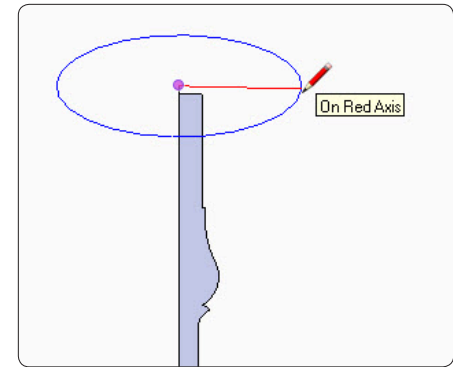
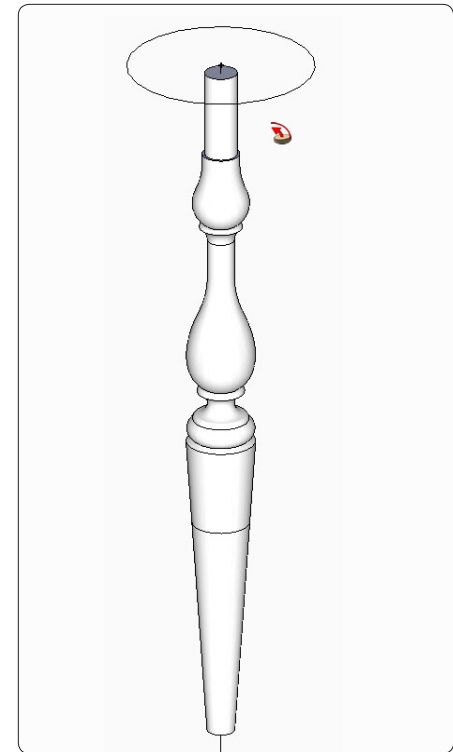

Figure 28. Draw a circle to make a path for the Follow Me Tool. Be sure the circle’s radius is on the red axis, so it lines up with the leg shape.
Figure 29. The completed leg.
Step 5 Create the path for the Follow Me Tool, as shown in Figure 28. The size of the circle doesn’t matter, but be sure its radius follows the red axis to line up with the leg shape face. Select the path, then select the Follow Me Tool, and click on the top portion of the leg shape. Repeat for the bottom portion. The result is shown in Figure 29. If you haven’t already done so, make the leg a component.